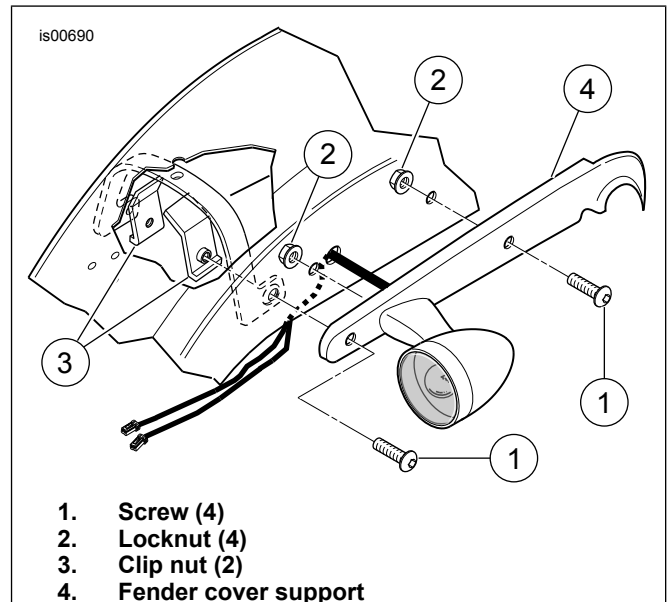

Figure 1. Rear Fender Support Removal
3. See Figure 1. Remove and discard front and rear button head screws (1), two locknuts (2) and under fender clip nuts (3) from the left and right rear fender support covers (4).